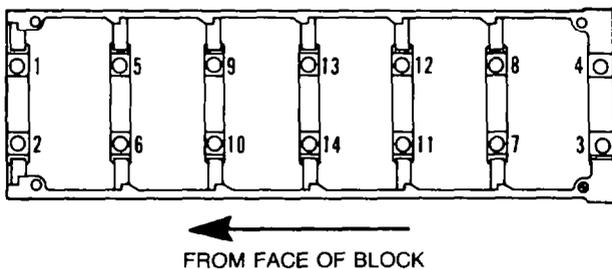

Figure 47 — Main Bearing Cap — Tightening Sequence
- u. Torque the main bearing cap bolts in seven steps using the sequence shown in Fig. 47.